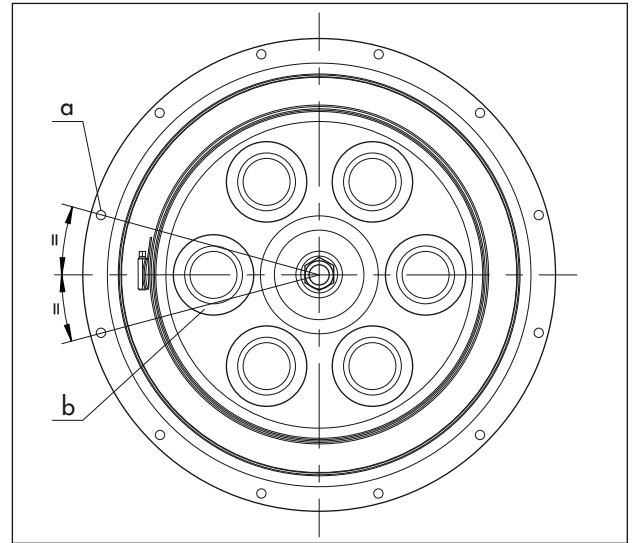

Fig. 24: Aligning the diaphragm
6. Mount the new diaphragm (A4). Make sure that the diaphragm is correctly aligned with the diaphragm plate. The imaginary line through two opposing recesses for springs on the diaphragm plate must be aligned centrally between two bolting holes in the diaphragm (see Fig. 24).
and hose clamp (A6). Place and align the compressor (A19) beneath the clamp's latch (see Fig. 24). Tighten the screw of the latch using a suitable tool. Observe tightening torques.
350 and 700 cm²: Turn the screw on the latch of the hose clamp until only a gap of just a few millimeters remains between the diaphragm (A4) and hose clamp (A6). Place and align the compressor (A19) beneath the clamp's latch (see Fig. 24). Tighten the screw of the latch using a suitable tool. Observe tightening torques.